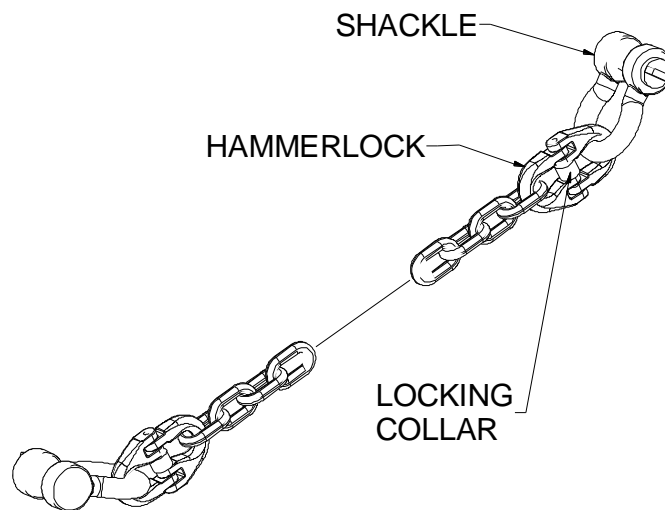

Figure 7.3.1: Safety chain showing chain and shackle attached to hammerlocks.
- Attach the first hammerlock and one shackle to one end of the chain as shown in Figure 7.3.1,
- Fit the second hammerlock to the free end of the chain ensuring that the shackle is threaded through the end of the hammerlock before locking the hammerlock pin in place in the same way as shown in Figure 7.3.1, and